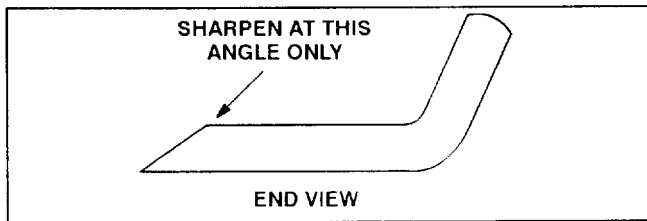

Figure 75
- Inspect cutting edges of all blades. Sharpen the cutting edges if they are dull or nicked. Sharpen only the top of the cutting edge and maintain the original cutting angle to make sure of sharpness (Fig. 75). The blade will remain balanced if same amount of metal is removed from both cutting edges.